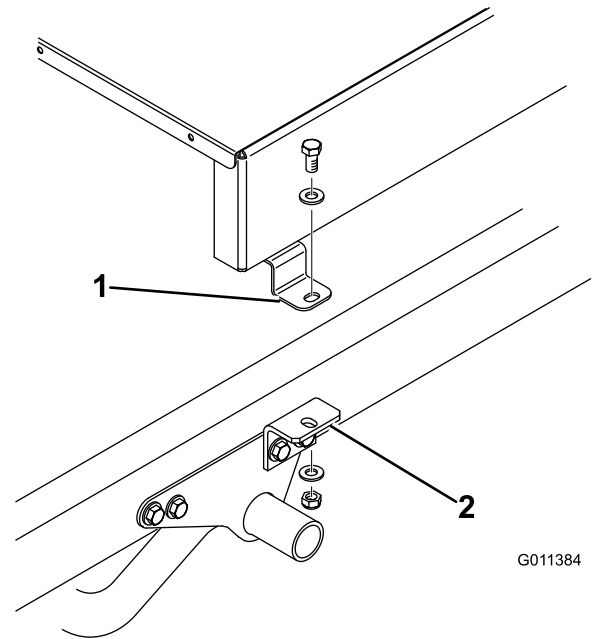

**Figure 9**
- Secure each rear mounting bracket to the frame of the Workman vehicle with a clevis pin and 2 lynch pins (Figure 9).